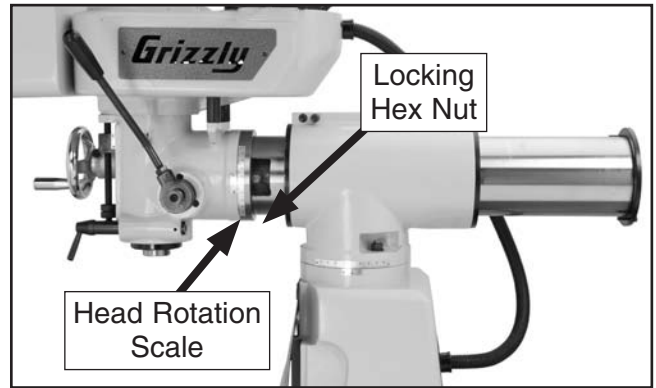

Figure 23. Right side head tilt.
This mill is designed to operate with a right-left headstock tilt of 45°. To prevent headstock binding and insufficient support, do not tilt the headstock to a full 90°. Binding occurs when one of the hex bolts on the side of the headstock (Figures 23–24) binds in the T-slot.
2. Loosen the two locking hex nuts on both sides of the turret (see **Figures 23–24**).